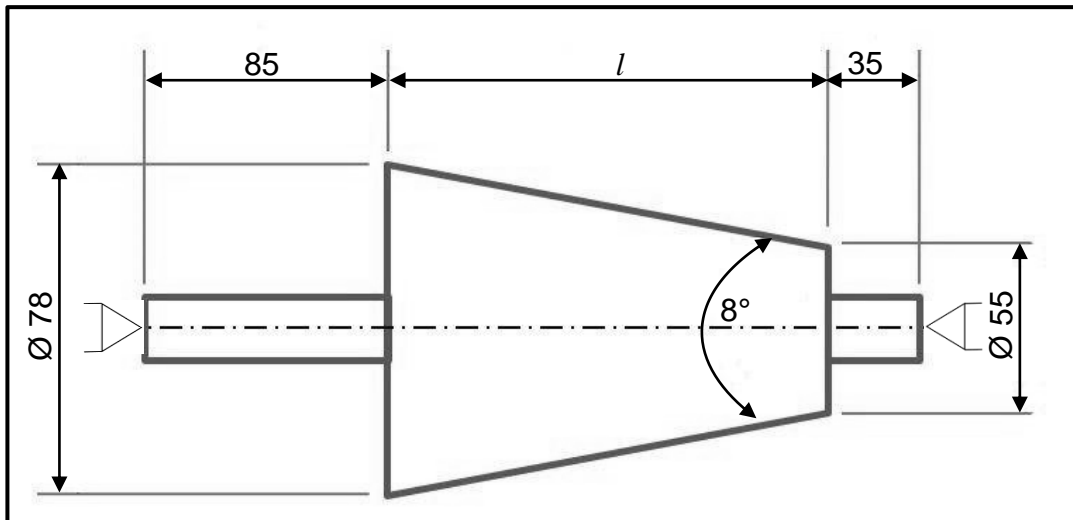

FIGURE 5.2
- 5.2 FIGURE 5.2 below shows a diagram of a taper with an included angle of 8°, which should be machined between two centres.
- 5.2.2 Calculate the set-over of the tailstock required to cut the taper in FIGURE 5.2. (4)